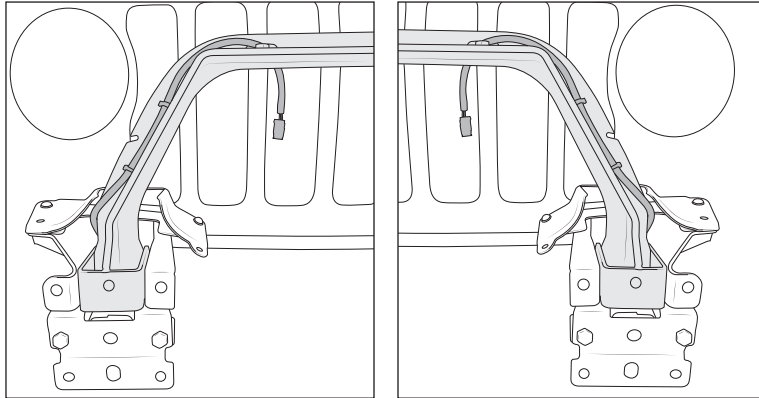

Figure 6
7. Install the bumper hoop to the top of the framerails in between the AEV bumper brackets (fig. 6).